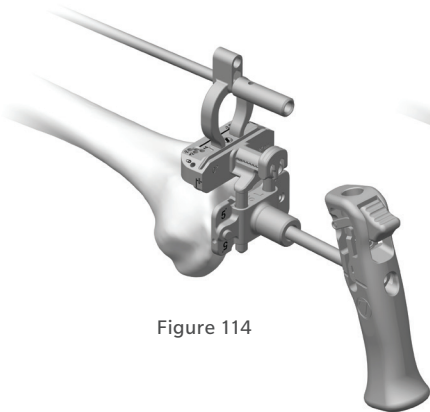

Figure 114
**ⓘ Technique Tip:** Confirm valgus alignment by inserting the drop rod adapter into the large holes on the anterior face of the cut guide and insert an alignment rod into the drop rod adapter (Figure 114).